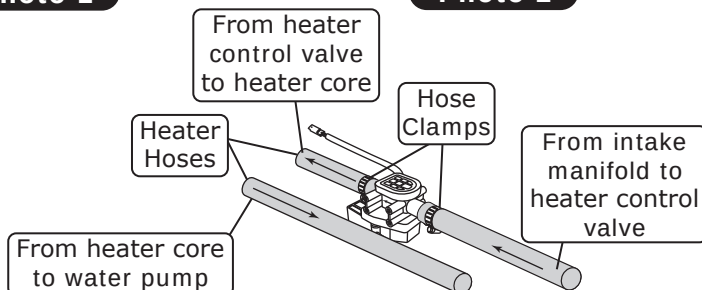

Figure 1
1. Mount the driver- and passenger-side center louver bezels under the dash using (4) #8 x 1/2" pan head screws as shown in Figure 1, below.
2. Install the louvers into the center louver bezels as shown in Figure 1, below.
1. Install the heater control valve support bracket onto the heater control valve using (4) #8 x 1/2" screws (See Photos 1 and 2, below)
5. Route the other end of the heater control valve heater hose to the intake coolant port (See Figure 1, below). Secure it with a hose clamp.
6. Route a length of heater hose to the lower heater hardline on the evaporator unit. Route the other end to the water pump coolant port (See Figure 1, below). Secure both ends with hose clamps.